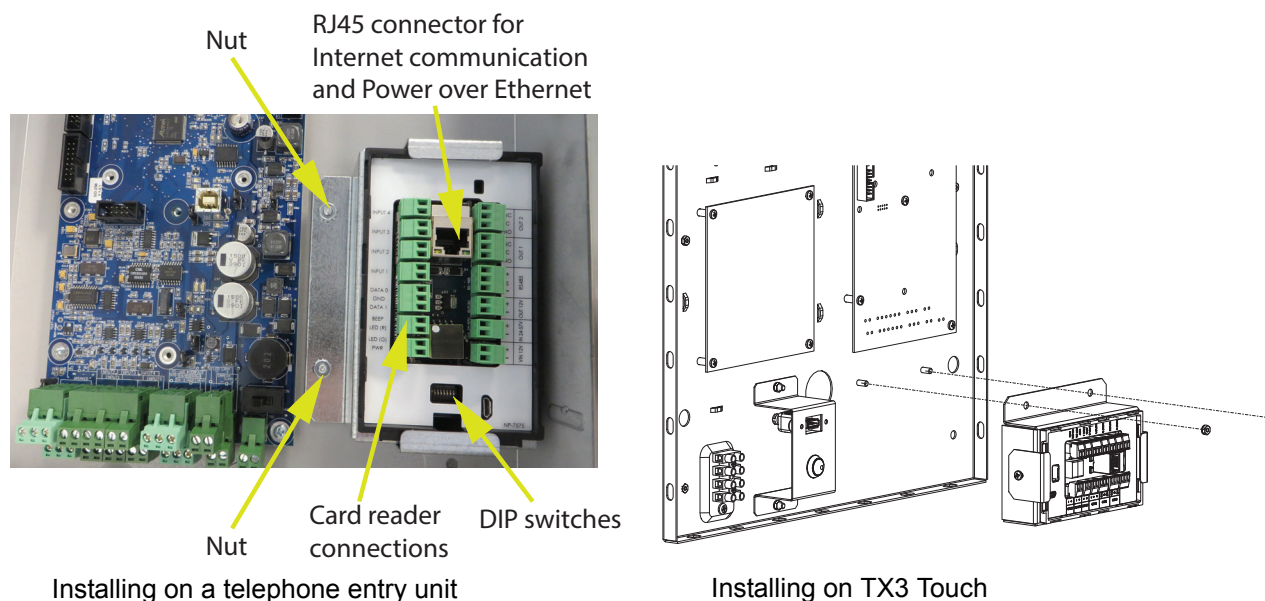

Figure 1 Mount TX3-CX-1NP
1. Mount TX3-CX-1NP on the two posts as shown in Figure 1.
- Use DIP switches 1-6 (shown in Figure 1) to set the RS-485 network address.